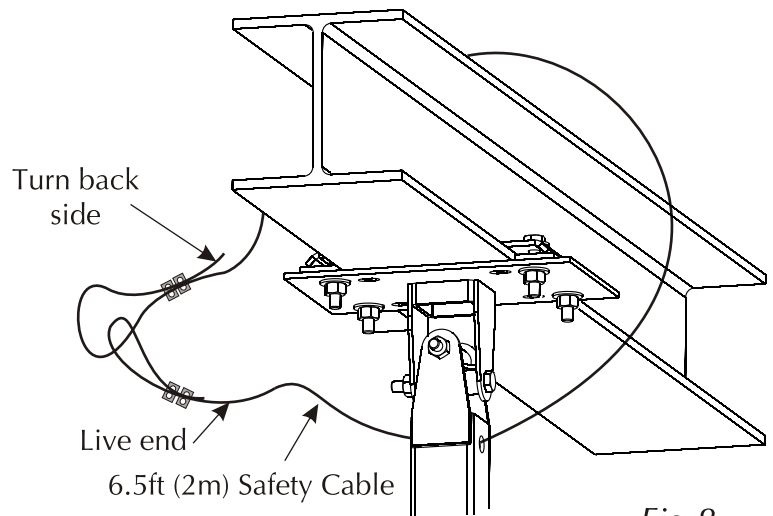

Fig.8
• How to install the standard mount (Fig.8)
2. Insert the bolts, washers and torque the nylocks to 110 ft/lbs (150Nm) (Fig.8).
3. Position the safety cable as per Fig.8, loop at both ends.